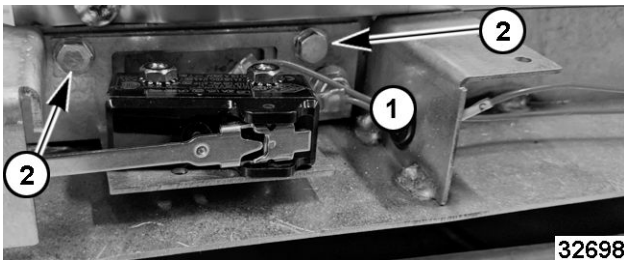

Fig. 32
- Disconnect leads (1, Fig. 32) to door switch.
- Remove door switch bracket mounting screws (2, Fig. 32).